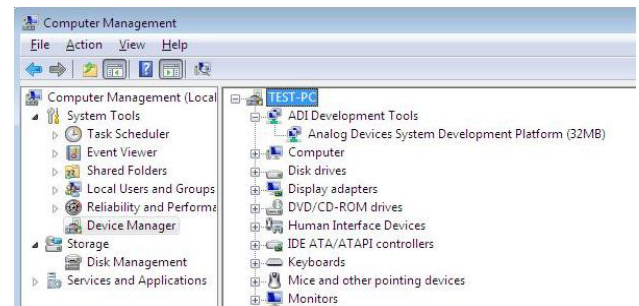

Figure 15. Device Manager: Checking that the Board Is Connected to the PC Correctly
- The **Computer Management** window appears. From the list of **System Tools**, click **Device Manager** (see Figure 15).